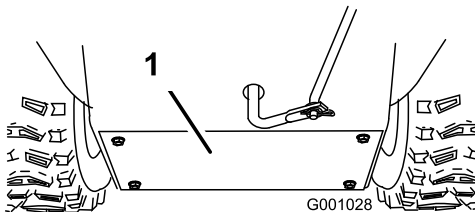

Figure 35
3. Remove the back cover (Figure 35).